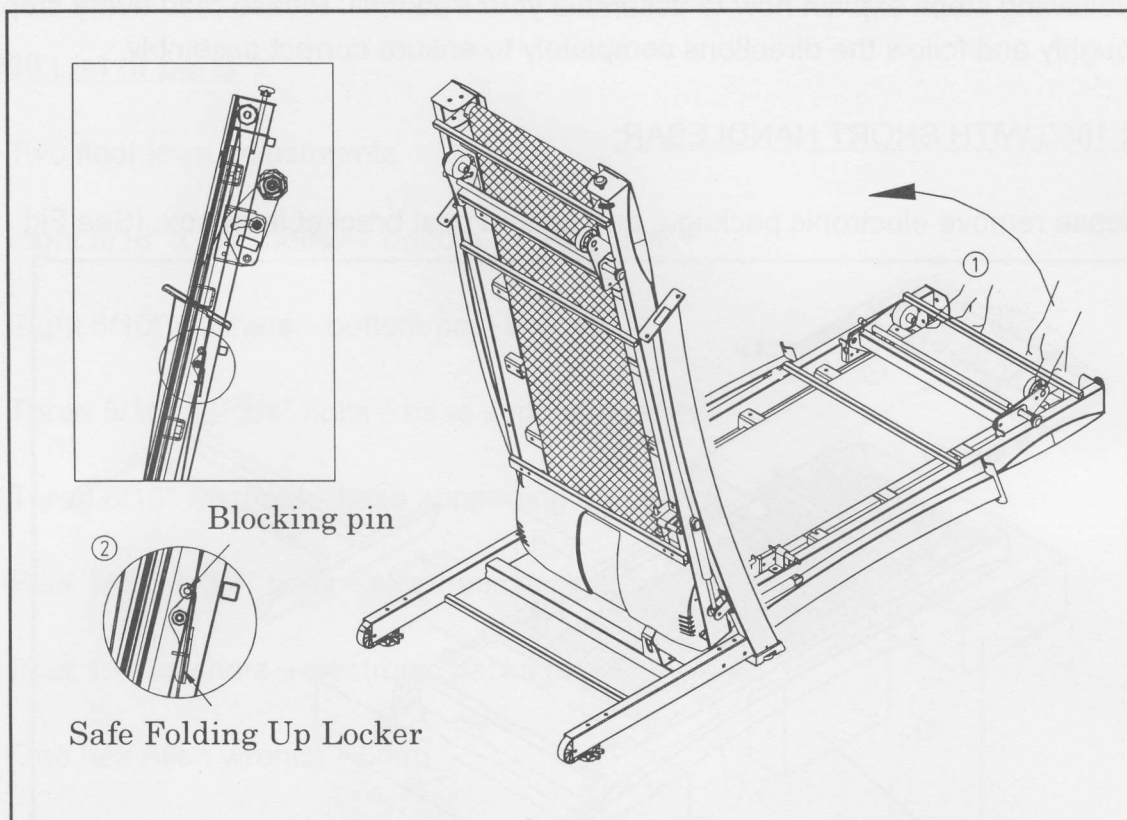

Fig.3
3. Remove treadmill from styrofoam, and place on a flat surface. Make sure blocking pin is securely attached to safe folding up locker. (See Fig. 3)